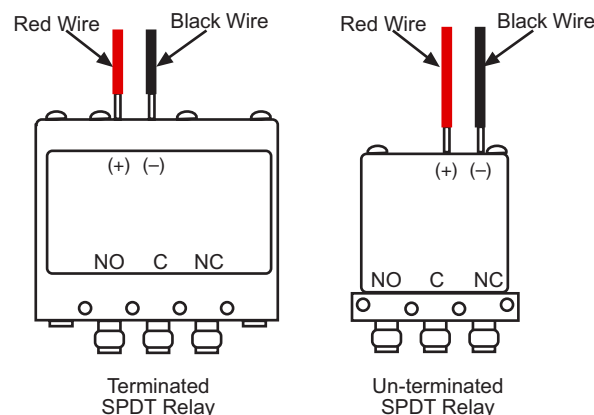

Figure 3
2. Remove the 2 screws holding relay spacers in the relay column containing the desired relay installation location (see Figure 3).
4. For terminated relays: replace the spacer in the desired location with the relay (refer to the inset in Figure 3 labeled Terminated SPDT relay installation).
For un-terminated relays: replace the spacer in the desired location with the relay and an S40-SE05-307 spacer (refer to the inset in Figure 3 labeled Un-terminated SPDT relay installation).